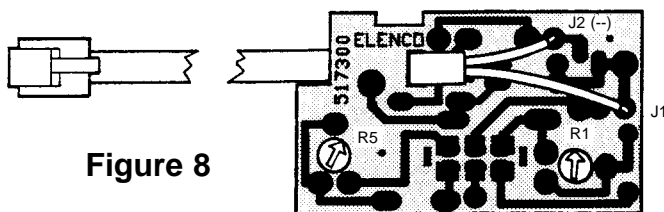
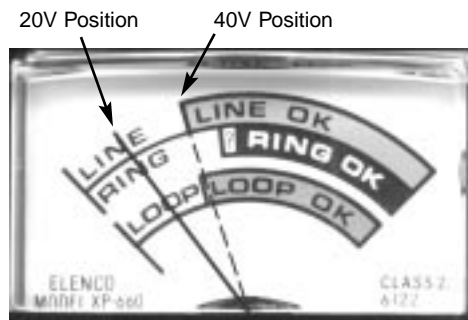

Figure 8
Figure 9
1. Set the switch to the LINE/RING position. Apply 40VDC between J1 and J2 (be sure J1 is positive), see Figure 8. Adjust R5 so that the meter reads on the line at the start of the LINE OK area. (if 40V is not available, apply 20VDC between J1 and J2, and adjust R5 so that the meter reads on the last line of the letter "N" as shown in Figure 9).